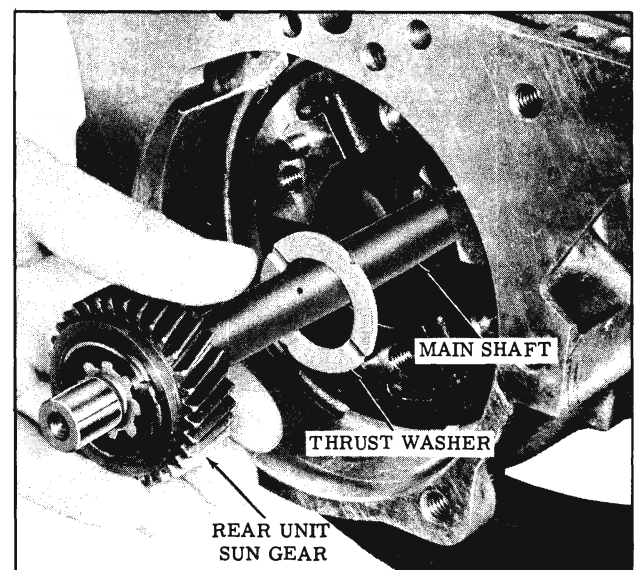

Fig. 3-242 Removing Main Shaft Sun Gear
42. Remove the mainshaft with sun gear and thrust washer from the rear of the transmission. (Fig. 3-242)